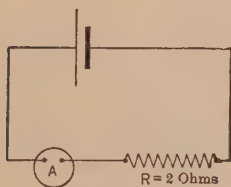

FIG. 171.
**Prob. 18.** The cell in Fig. 171 has an e.m.f. of 1.35 volts. The ammeter reads 0.31 amp. What is the internal resistance of the cell?
**Prob. 19.** What would a voltmeter read if put across the cell connected as in Fig. 171?